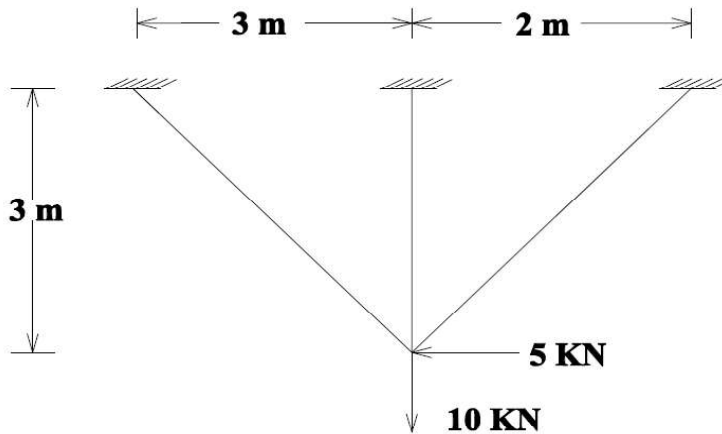

Fig.4
2. Compute the forces in the members of the truss shown in Fig.4 by finite element method. Take  $E = 200 \text{ GPa}$ .